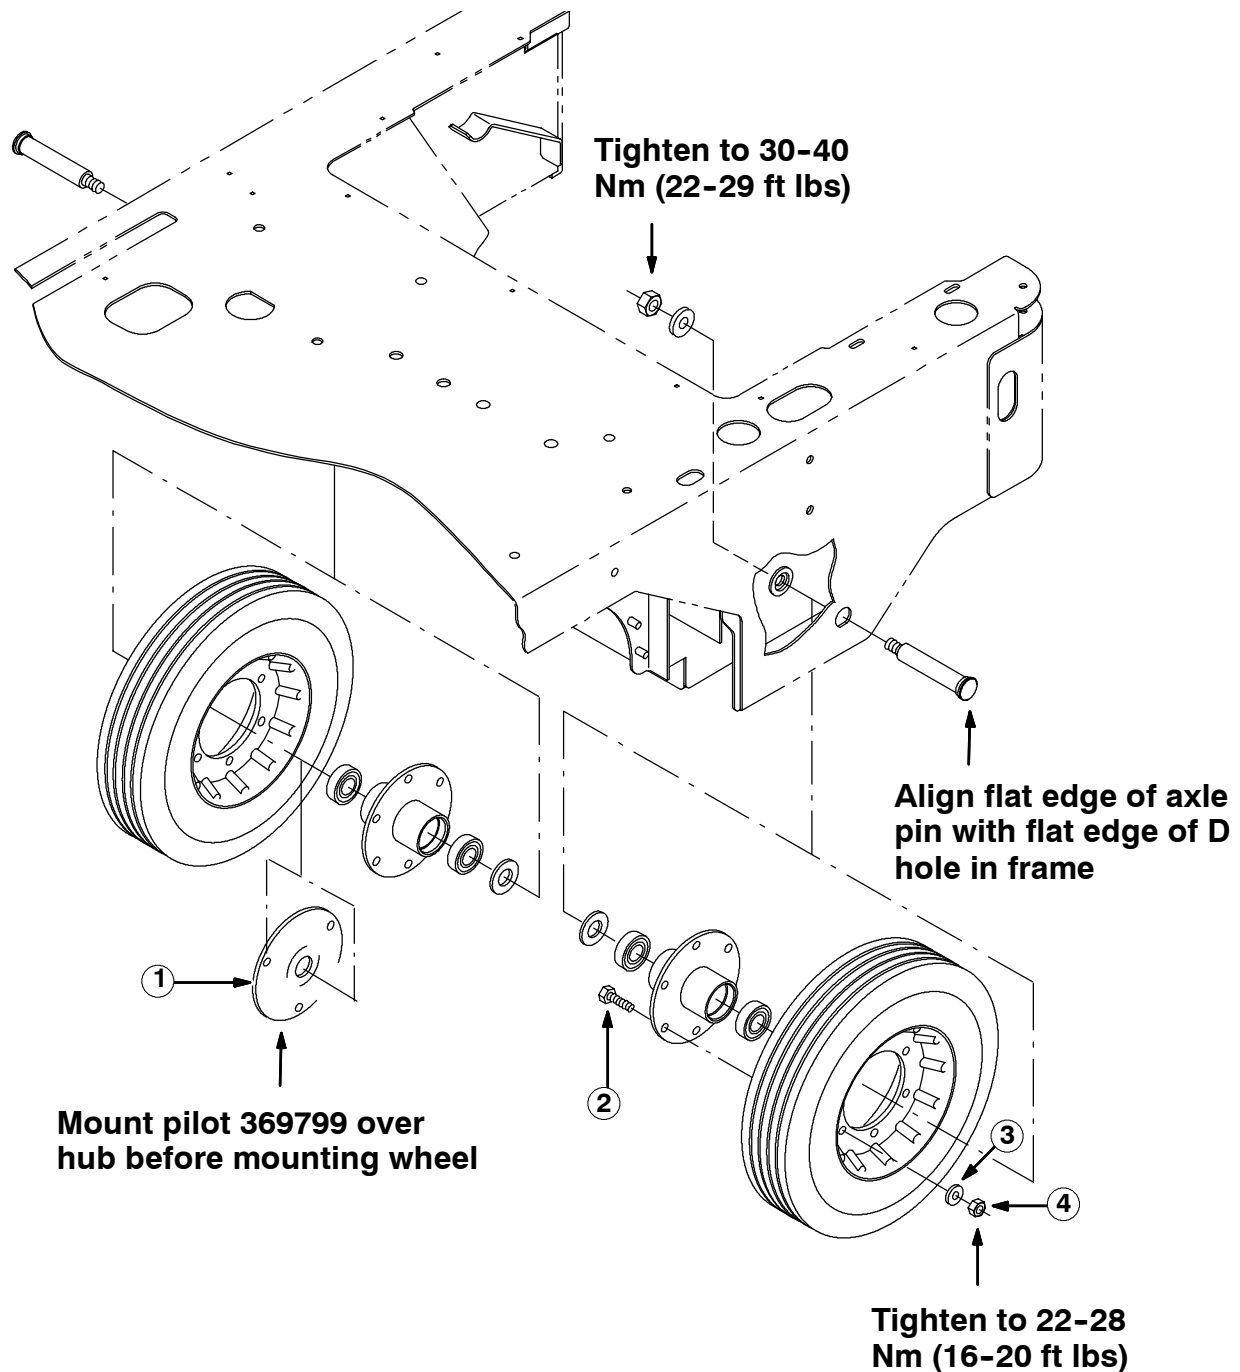

FIG. 1 - PILOT HUB KIT INSTALLATION
(Refer to FIG. 1)
8. Place the new pilot (1) on the outside of the wheel housing. Align the pilot mounting holes with the wheel housing mounting holes. (Refer to FIG. 1)
9. Mount the set aside wheel to the pilot (1) and housing with three new hex screws (2), flat washers (3) and lock nuts (4). Tighten mounting hardware to 22-28 Nm(16-20 ft lbs). (Refer to FIG. 1)
10. Align flat edge of axle pin with flat edge of D hole in frame. Replace wheel assembly in machine with the set aside axle pin, washer and hex nut. Tighten hardware to 30-40 Nm (22-29 ft lbs). DO NOT OVERTIGHTEN. Too much torque can damage the axle. (Refer to FIG. 1)